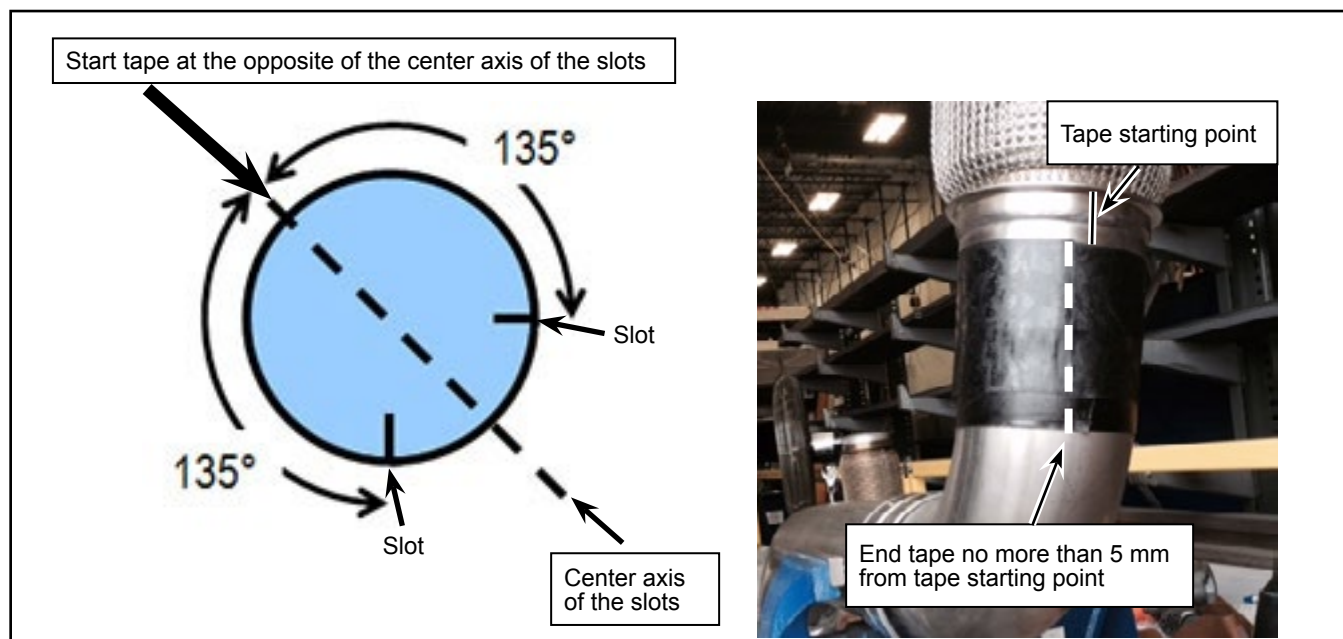

Figure 3 - Position of N83257 Tape on the Flexible Bellows
- 1.9. From the opposite of halfway (or center axis) between the two slots and in line with the 10 mm mark, wrap two layers of N83257 (3 in. wide) tape. End the second layer of tape even with or 1/4 in. (0 to 5 mm) from the start point. See Figure 3.